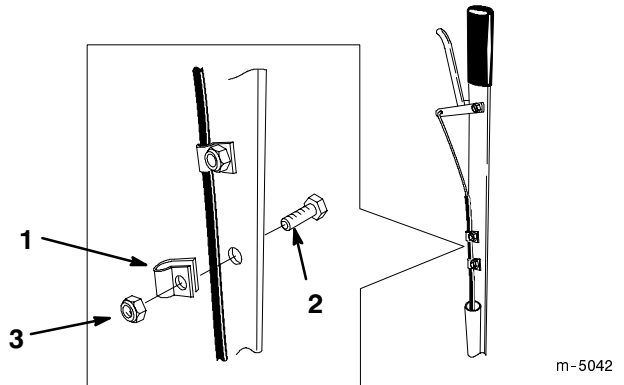

Figure 12
14. Pull down on the cable jacket where it enters the tube in the handle to remove slack and secure it to the handle using two cable clips, two 1/4 x 1 in. bolts, and two 1/4-20 in. locknuts (Fig. 12).